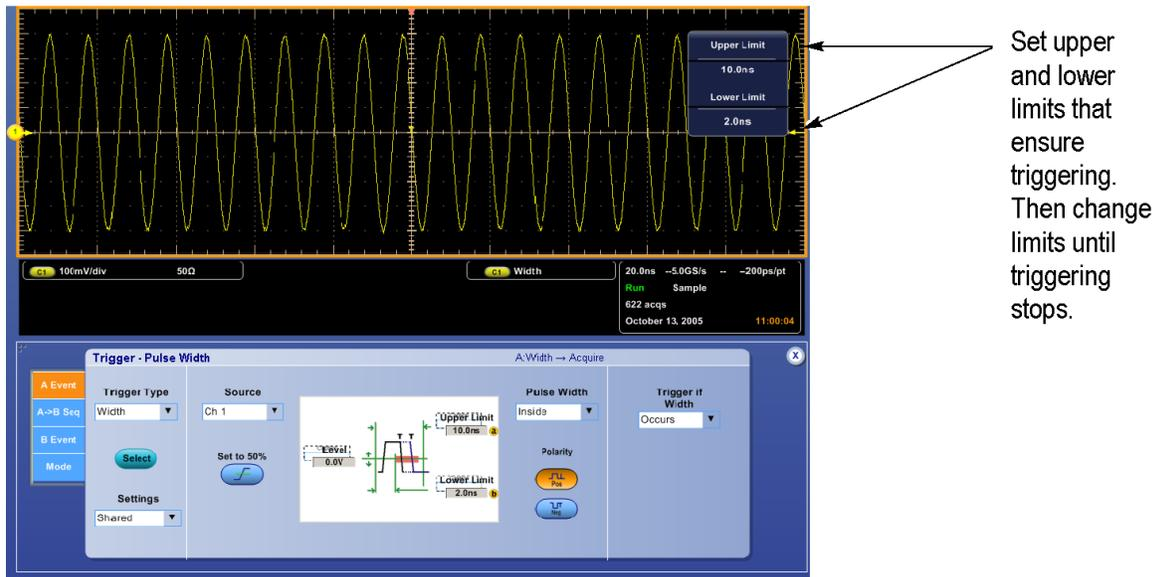

Figure 29: Measurement of time accuracy for pulse and glitch triggering
- a. Set upper and lower limits that ensure triggering at 100 MHz: (See Figure 29 on page 165.)